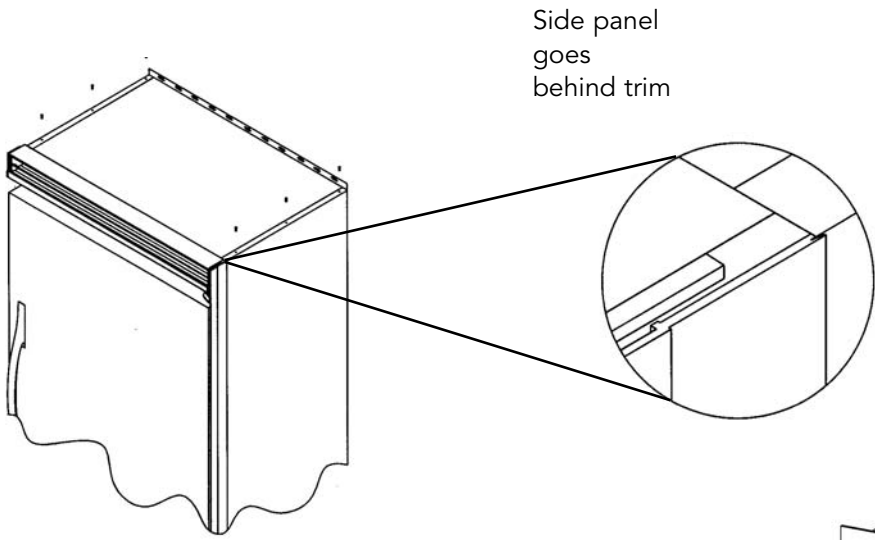

Figure 1
4. Position the side panel behind the cabinet side trim. Insure that the panel is fully located behind the side trim and that the rear flanges of the panel are making contact with the rear of the unit. If necessary, use a shim between the panel and the floor to maintain panel at proper height. Align the top of the panel with the top of the side trim. (figure 1)